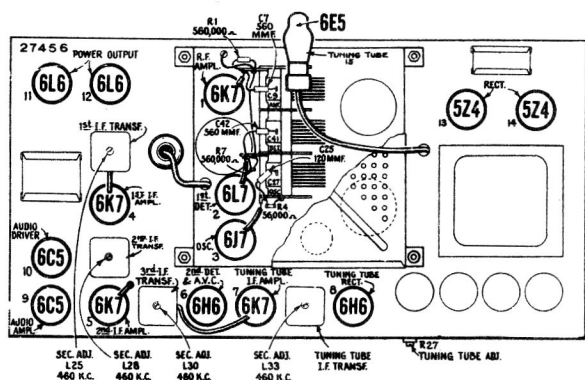

Figure 1—Radiotron and I-F Trimmer Locations
The i-f signal voltage developed in L31 (third i-f transformer) is applied to the control grid of the Type-6K7 tuning tube i-f amplifier. The output of this tube is coupled through a sharply tuned transformer to the Type 6H6 tuning tube rectifier. All or a portion of the voltage which develops across resistor R27 (adjustable from back of chassis, see figure 1) is transferred from the movable arm to the grid of the Type 6E5 cathode-ray tuning tube through a suitable resistance-capacitance filter. The sharpness of this amplifier permits the receiver to be accurately tuned to the incoming carrier with the tuning tube Cathode-Ray Tuner while operating receiver with the fidelity control in extreme clockwise (broad) position.
- (c) Adjust the two magnetite core screws **L30** and **L29** (see figures 1 and 10) of the third i-f transformer (one on top and one on bottom) to produce maximum vertical deflection of the oscillographic image. This adjustment places the transformer in exact resonance with the 460 kc signal.
- (d) Turn tuning tube adjustment screw **R27** (see figure 1) to extreme clockwise position. Adjust output of test oscillator until the width of the dark sector on the fluorescent screen in the
Type-6E5 tuning tube is very narrow ("Cathode Ray" almost closed). Adjust the two magnetite core screws **L33** and **L32** (one on top and one on bottom, see figures 1 and 10) of the tuning tube i-f transformer until minimum